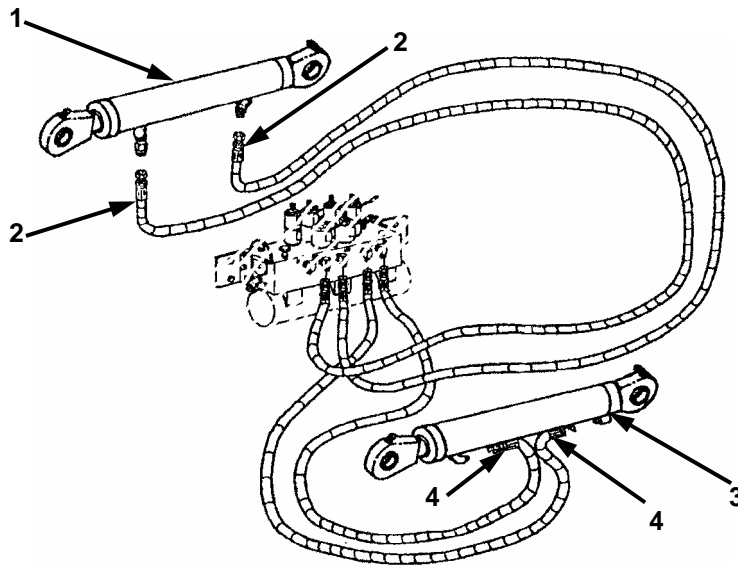

Figure 2-7. Track Adjusting Cylinder (1 of 3).
- Remove two hoses (Figure 2-7, 2) from right side hydraulic track adjusting cylinder (1) and set aside for disposition per Chapter 1, Section 1-8, step c.